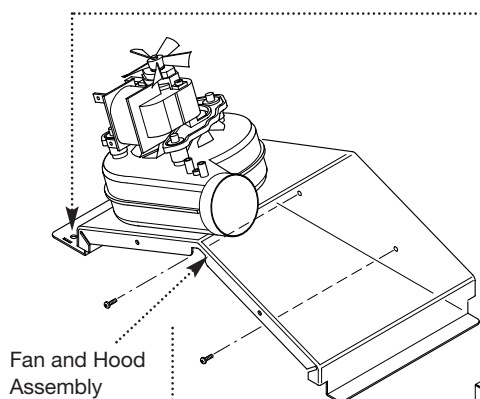

Fig. 43
12. Undo the screws securing the fan and hood to the appliance back panel. Draw the assembly forwards (Fig. 43).